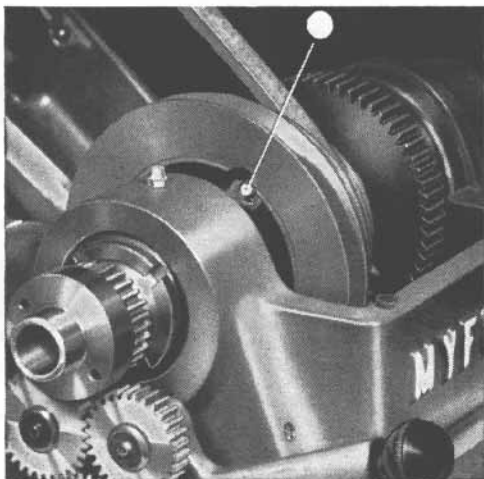

Fig. 28. Showing the oil nipple for headstock pulley bearing lubrication.
**IMPORTANT:** WHENEVER THE HEADSTOCK REDUCTION GEAR IS USED, ENSURE THAT THE HEADSTOCK PULLEY BEARING IS WELL LUBRICATED VIA THE OIL NIPPLE AT THE LARGE END OF THE PULLEY. Fig. 28.